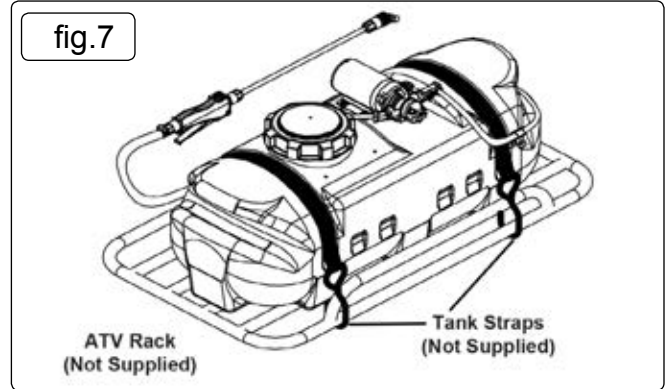

fig.7
- 5.6. Attach the Sprayer to the Vehicle (see fig.7)